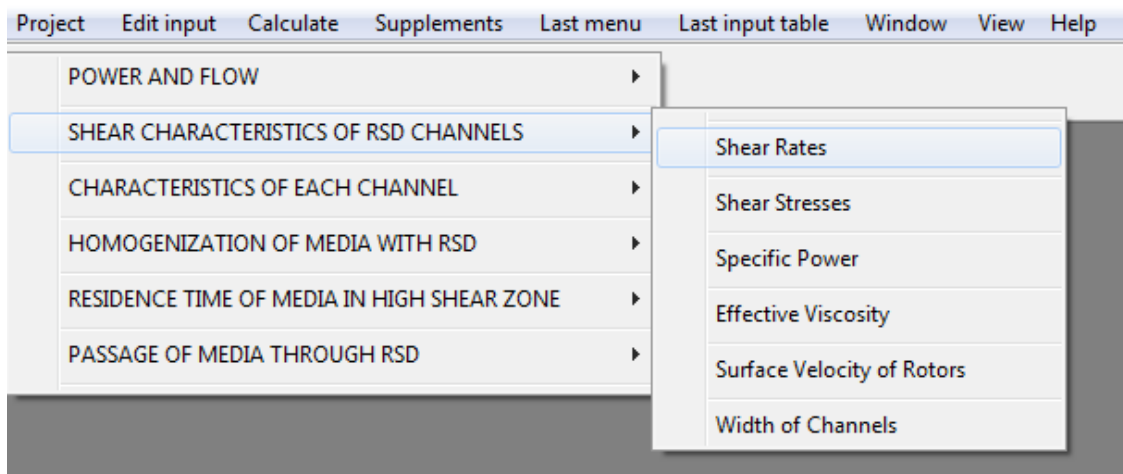

Figure 11.
2.1. Select **Calculate >SHEAR CHARACTERISTICS OF RSD CHANNELS >Shear Rates** in the main menu (Figure 11).